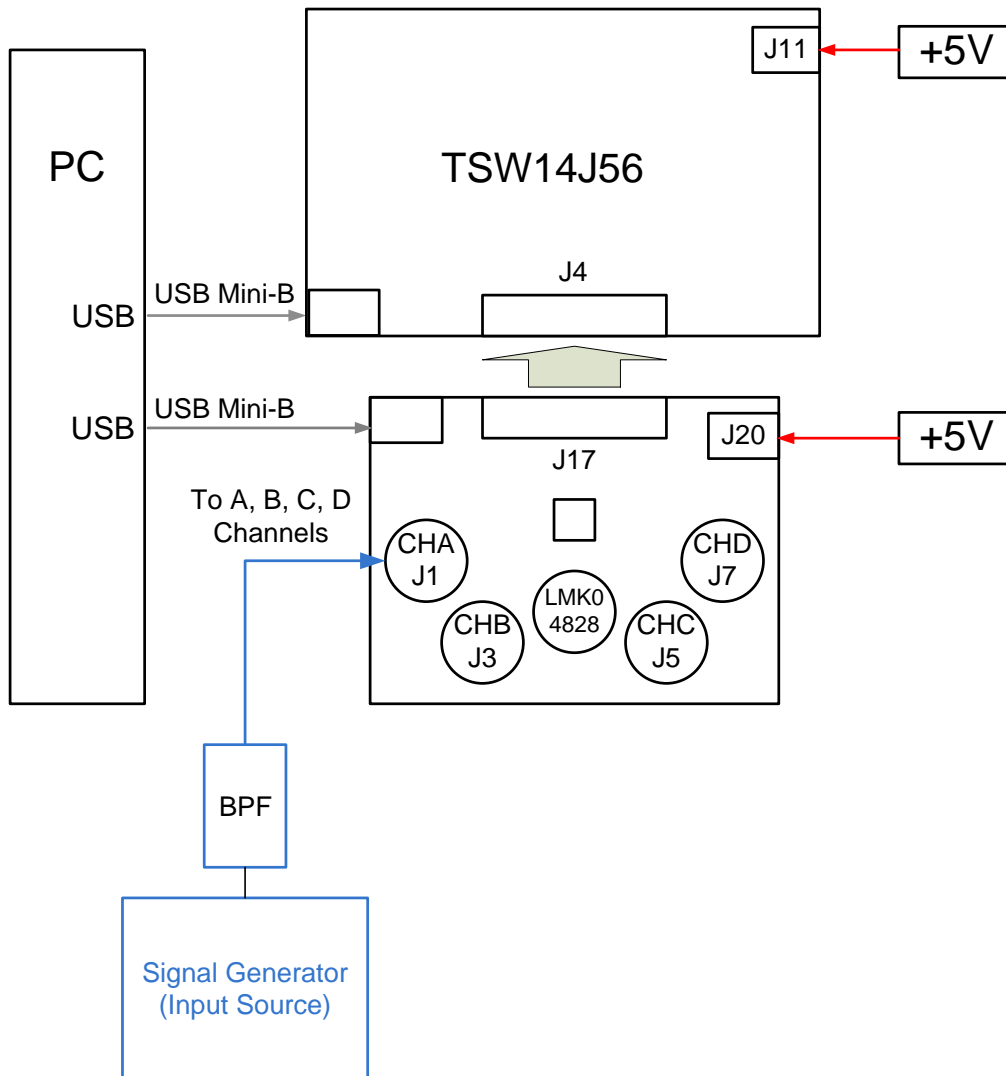
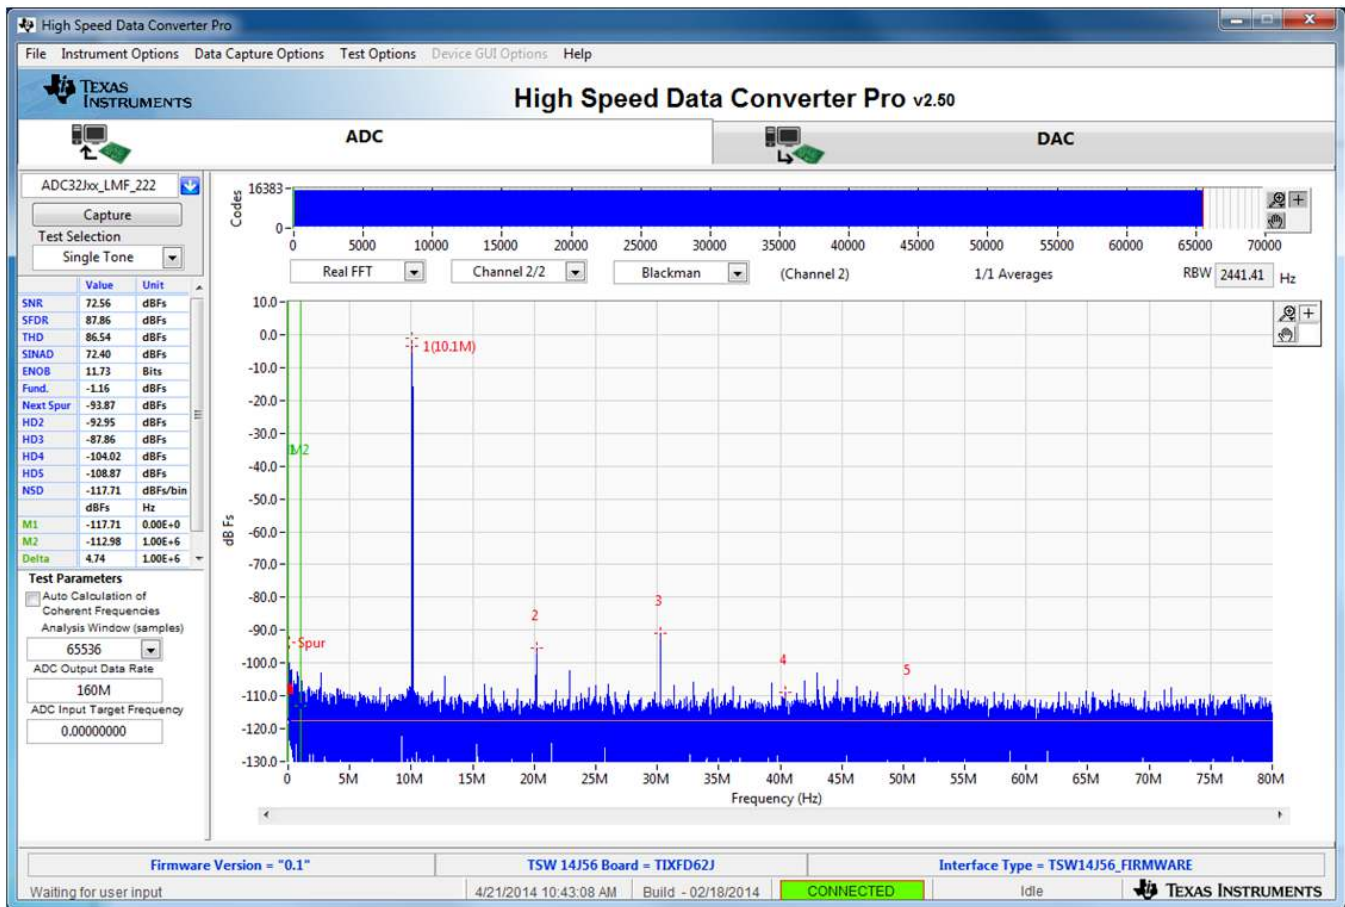

Figure 18. ADC32Jxx/ADC34Jxx and TSW14J56 Test Setup Block Diagram
Figure 20. ADC32Jxx Operating in 14-Bit Mode at 160 MSPS With a 10-MHz Input Signal
The test set-up for evaluation of the ADC32J/34Jxx EVM with the TSW14J56 or TSW14J50 Capture Card is shown in Figure 18. As seen in this figure, the evaluation setup involves a clock from a high quality on board clock chip LMK04828 and a sine wave for the analog input from a high-quality signal generator. High order, narrow bandpass filters are usually required to remove phase noise and harmonic content from the input sine waves. Since the on board clock and input sinewave are not coherent then the resulting FFT will need to have a windowing function such as Blackman-Harris/Hamming/Hanning applied to the data.
- Select the number of sample points (and resulting number of FFT bins) to be used. The example shown in Figure 20 has 65536 samples.
- Enter the ADC32J/34Jxx sampling rate. The example shown in Figure 18 has the sample rate set at 160 MSPS.
- Enter the input frequency desired. The example shown in Figure 18Figure 20 has the filtered input frequency set at 10 MHz and around 10 dBm. Adjust to achieve -1 dBFs on the HSDC Pro FFT plot.
- Observe an FFT result similar to that shown in Figure 18.